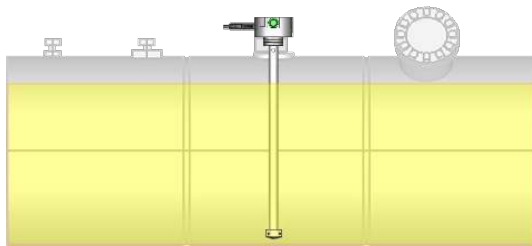

Figure 22: High Level Calibration
- For High Calibration, fill the tank such that 100% of the probe length is dipped in fuel. (Refer to Figure 22.)